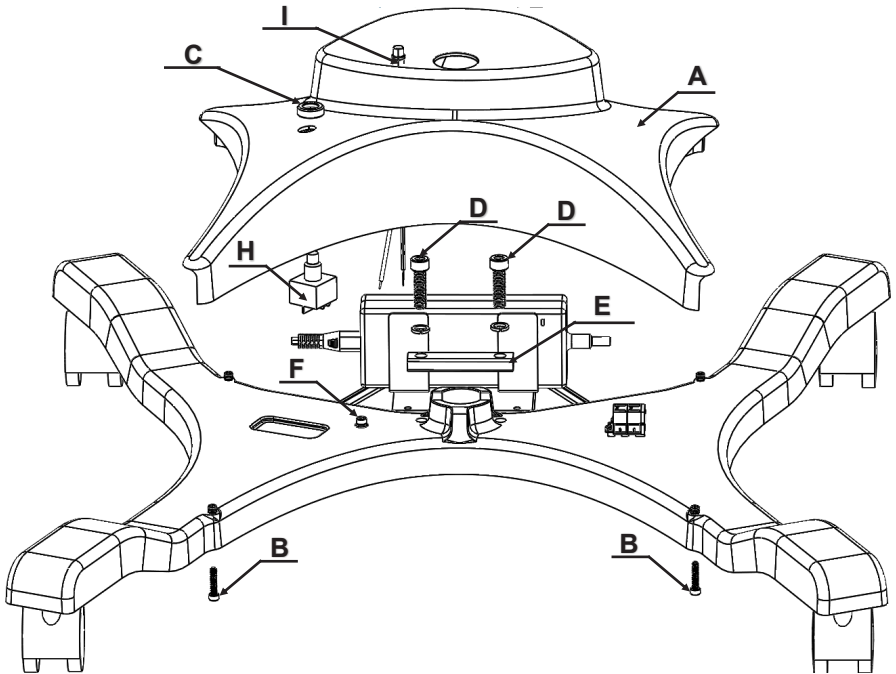

Figure 1.
4.1 Base Post Assembly Parts (Refer to Figure 1)
2. Using a 3mm Allen Key, remove four (4) x M4 screws (B) from underside of base to release the plastic cover. Place screws aside for reassembly. Refer to Figure 1.
- Remove the electrical switch nut (C) by unthreading it from the push button switch (H). Place it aside. Refer to Figure 1.